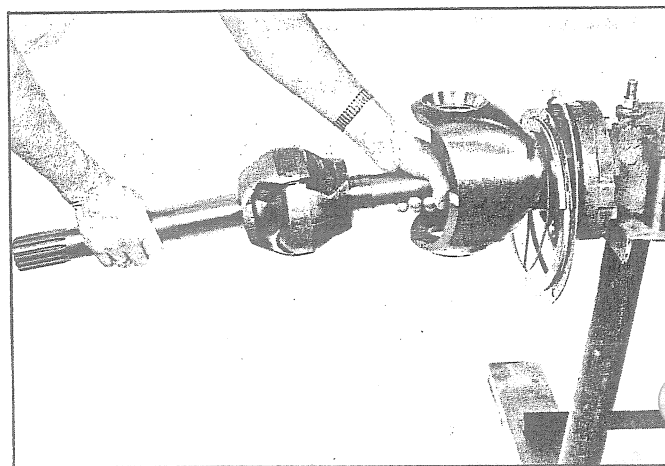

Fig. 23 - Installing Axle Shaft Assembly
16. Slide axle shaft and "U"-joint assembly into housing as shown in Fig. 23. Pack "U"-